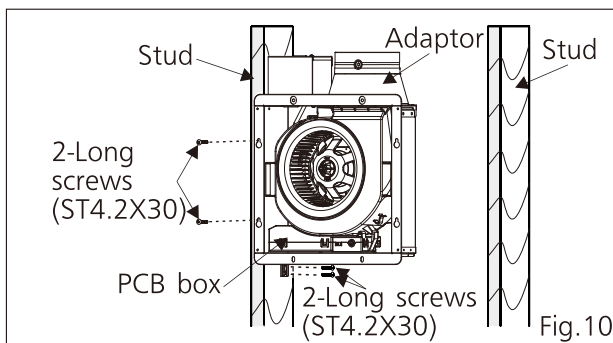

Fig.10
2. Fix the flange of frame to stud by 2 long screws (ST4.2X30), and fix the suspension bracket to stud by 2 long screws (ST4.2X30). (Fig.10)
- ! The adaptor of product must be installed upward. (Fig.10)